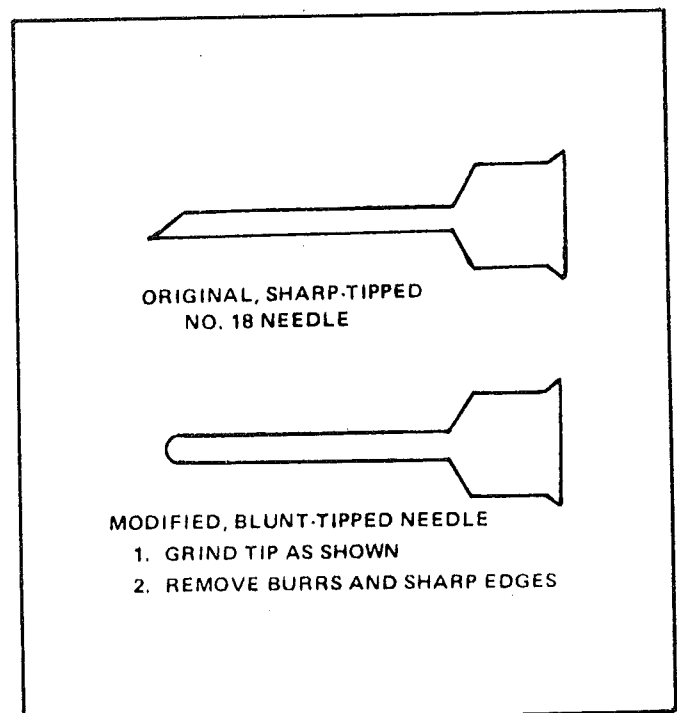

FIGURE 5-8 HYPODERMIC NEEDLE MODIFICATION
5. Modify No. 18 hypodermic needle per Figure 5-8.